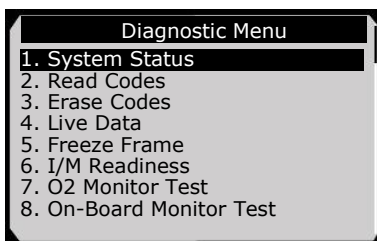

Figure 6.3
- 7) View a summary of system status (MIL status, DTC counts, Monitor status) on screen. (Figure 6.1) Press the **ESC** button for **Diagnostic Menu** (Figure 6.3) to come up.
- 1) Use the **UP/DOWN** scroll button to select **Read Codes** from **Diagnostic Menu** and press the **OK** button. (Figure 6.3)
- 1) To view live data, use the **UP/DOWN** scroll button to select **Live Data** from **Diagnostic Menu** and press the **OK** button. (Figure 6.3)